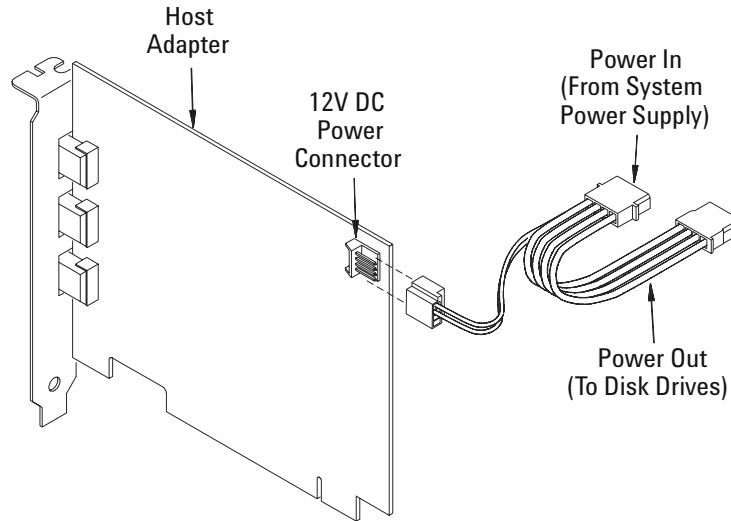

Figure 4-5 Connecting the Power Cable Between the PC and the Host Adapter.
6. Connect the power splitter cable between the adapter and the PC as shown in Figure 4-5. (Your computer may already contain a power cable you can connect to the PCI card. If this is the case, connect that cable and do not use the cable that was shipped with the 1394 PCI card.)